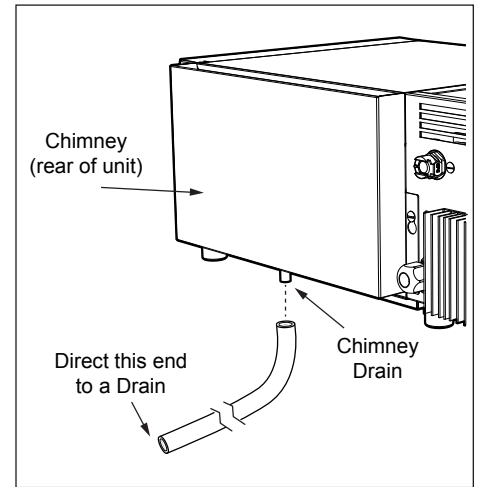

Figure 3. Chimney Drain Tubing
4. Connect a length of 1/4" (6.5 mm) I.D. flexible tubing (not supplied) to the bottom of the Chimney as shown in Figure 3. Secure using a hose clamp (not supplied). Direct the other end of the tubing to a drain.